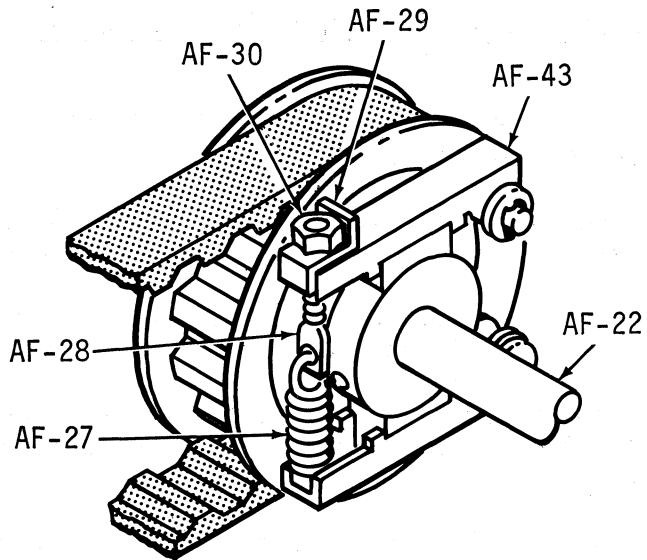

Figure 5-7. TORQUE LIMITING DEVICE (BRAKE)
2. Using a 5.5 mm (7/32-in.) wrench, turn nut (AF-30) on small threaded shaft (AF-28) (holding spring (AF-27) until tension is off the spring (See Figure 5-7)).